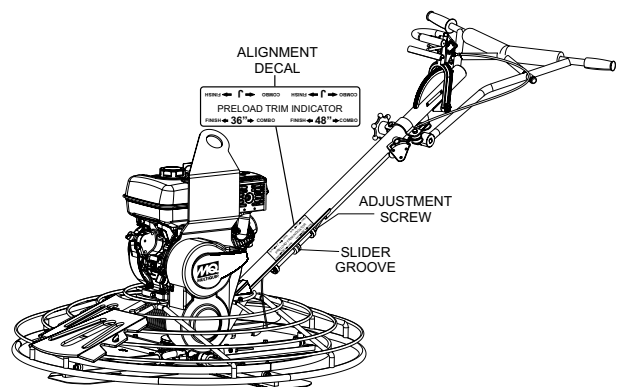

Figure 20. Spring Pre-Load Adjustment
2. Locate the spring pre-load adjustment screw (Figure 20) on the underside of the handle tube.